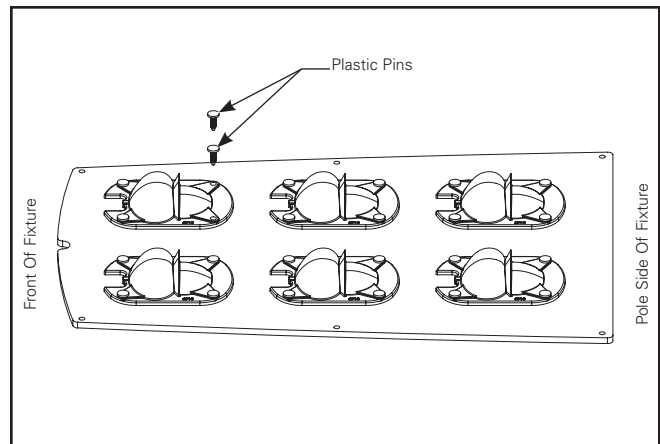

Figure 9.
1. Carefully remove plastic push pins on optics as shown in (Figure 9).